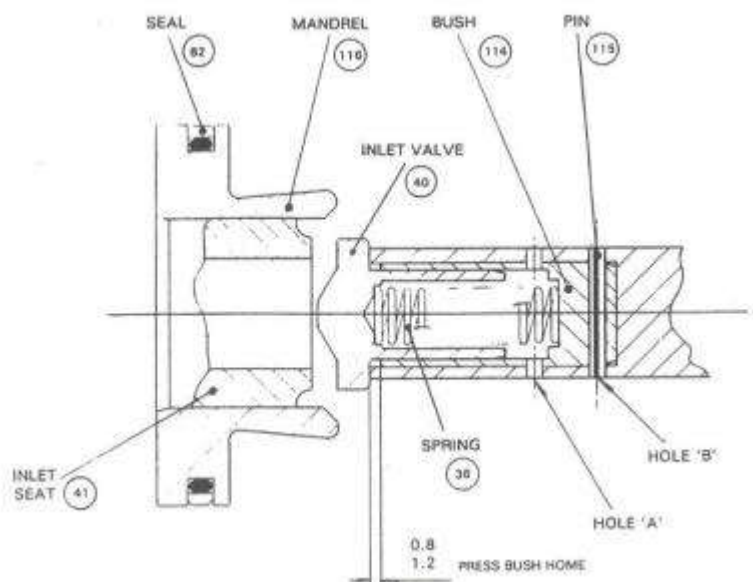
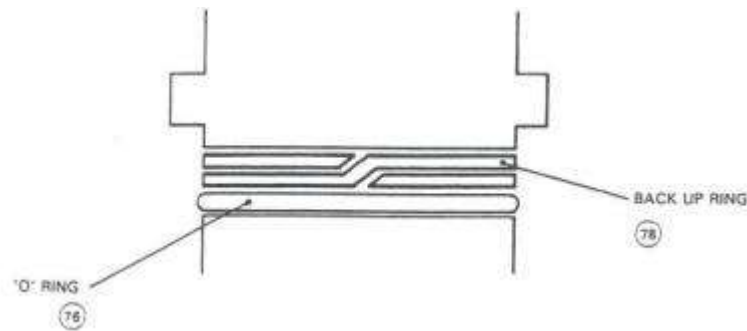

Fig 4.1 Mandrel Assembly
Fig 4.2 Inlet Valve Seat – Back Up Ring and 'O' Ring Fitting
8. In the following overhaul procedures, the item number that follows the description of a part refers to the assembly drawings (Figs 4.1 and 4.3 to 4.6).
- 4) Insert a Drift (part no 201-043) into the end of the Mandrel, from delivery end. Tap the end of the Drift to remove Collar (42), Inlet Seat (41), Spring (36), Valve 40, Mandrel Assembly (38) and Diaphragm (37) from the inlet end of the Barrel.
- 5) Pull the Inlet Seat (41) from the Mandrel Assembly (38). Remove Valve (40) and Spring (36).
- 6) Using Extractor (part no 201-082), remove Diaphragm (37) from Mandrel Assembly (38). Inspect the Diaphragm for splits or holes, replace if necessary.
- 7) Inspect Spring (36), replace if necessary.
- 8) Inspect the seating faces of the Valve (40) and Seat (41). If either is badly pitted, chipped or unevenly worn, it must be replaced.
- 9) Inspect the bore of Bush (114).. It should be noted that if the bore is worn it will prevent Valve (40) from shutting smoothly and squarely onto the Seat(41) and must be replaced if necessary. The procedure for replacing the Bush is as follows:
- i. Remove the Pin (115).
- ii. Screw an M12 tap into the Bush (114) until it bottoms.
- iii. Hold end of tap in a vice and gently tap the face of Mandrel (116) with a nylon mallet, until the Bush is removed.
- v. Using a 1.9 mm diameter bit, drill through 6 holes in Mandrel through wall of Bush (see Fig 4.1 - holes A).
- vi. Using a 1.9 mm diameter bit, drill through hole in Mandrel, right through Bush (see Fig 4.1 - holes B).
- vii. Using a flat punch, refit Pin (115) through Mandrel and Bush.
- 11) Inspect Seal (82 - Fig 4.1). If it is damaged, replace as follows:
- 12) Place Valve (40) and Spring (36) into Bush (114).
- 13) With reference to Fig 4.2, fit Back Up Ring (78) and 'O' ring (76) to Seat (41), and grease both. Ensure Back Up Ring is fitted as shown.
- 14) Push and turn Seat (41) anti-clockwise into the Mandrel Assembly